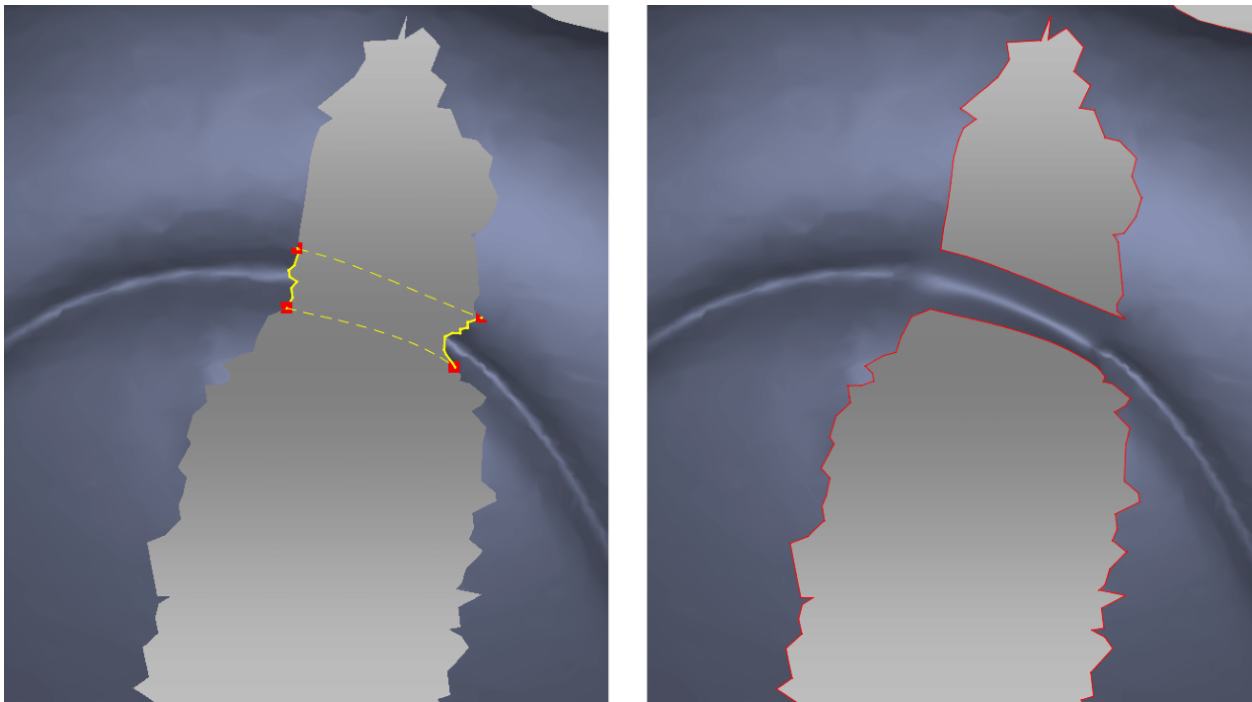

Figure 146: Specifying fragments. Correct fragments can resolve original geometry.
- 2. Specify two opposite fragments1 between which a bridge will go (Figure 146). There are two ways to do this:
Preserve the original geometry ( <a href="#">Figure 146</a> )	Clear the Smooth edges first checkbox